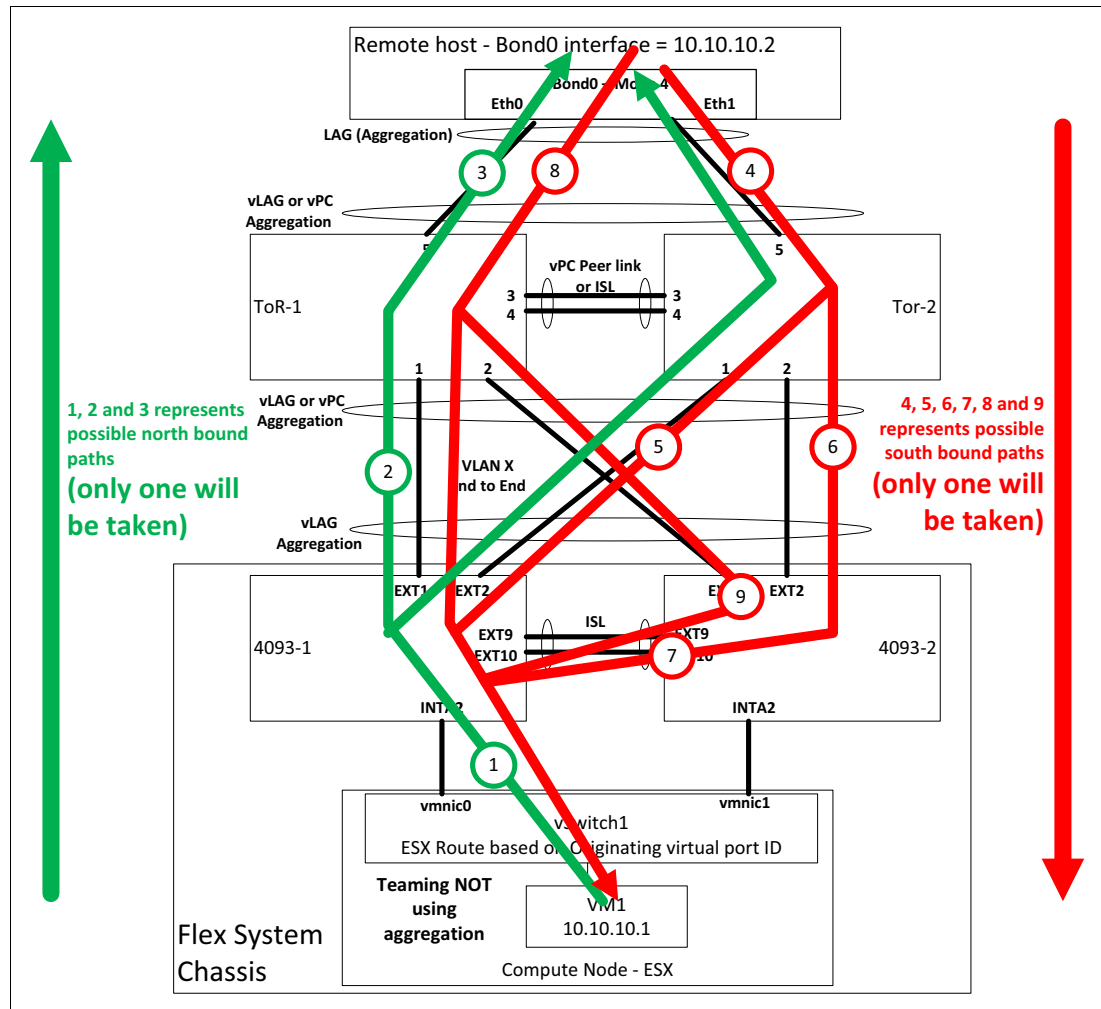
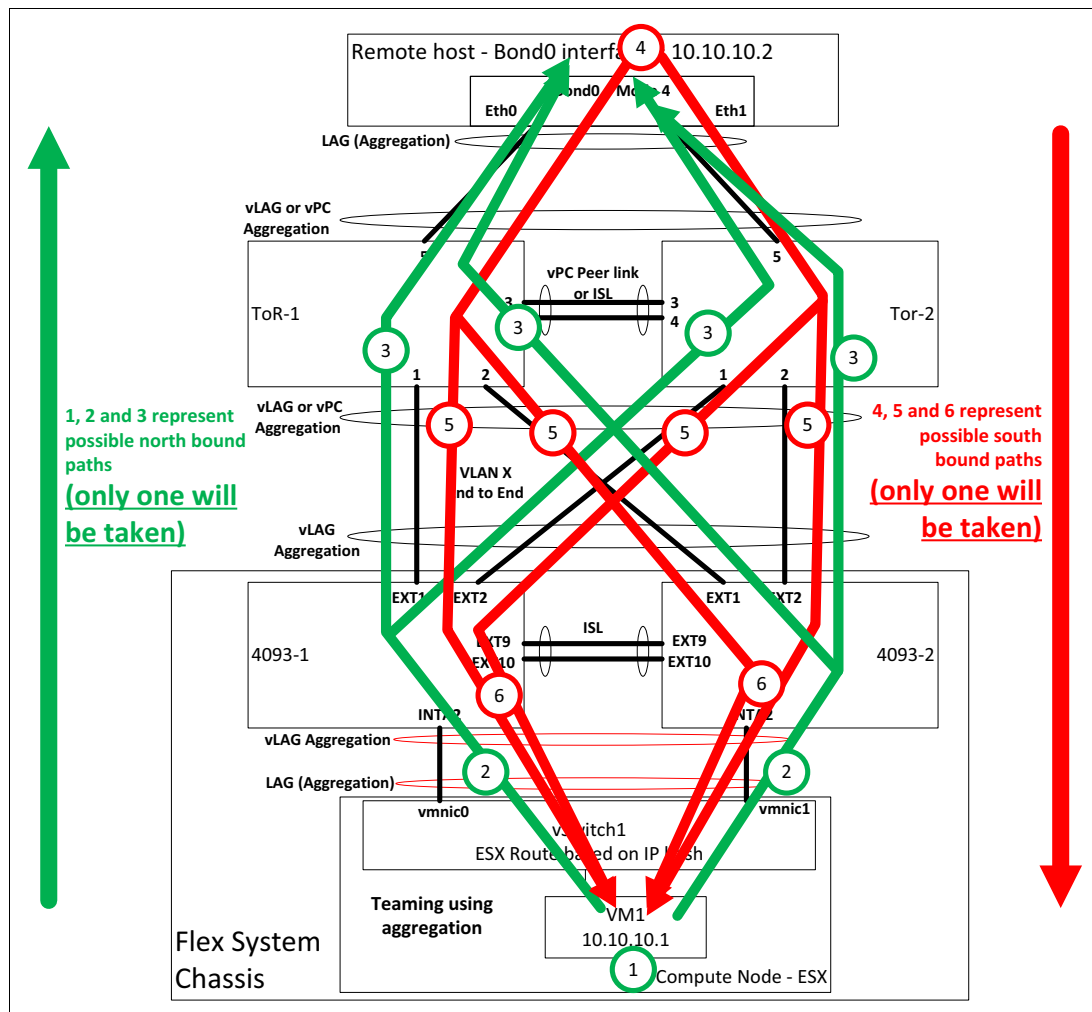

Figure 4-5 Possible packet flows with a host that uses a non-aggregation form of teaming
Figure 4-6 Possible packet flows with host that uses an aggregation form of teaming
The remaining parts of this section describe the examples that are shown in Figure 4-5 on page 52 with switch-independent mode teaming, and Figure 4-6 on page 54 with switch-dependent mode teaming to help show how packets can flow in an environment that features vLAG.
The example that is shown in Figure 4-5 is described in this section, via step-by-step numbered packet flows.
This packet flow includes the following steps, as shown in Figure 4-5:
1. In this example, the vSwitch in the local host is not running an aggregation-based teaming; instead, it uses load balance per virtual machine (VM) (this setting is the default setting in an ESX vSwitch). The vSwitch for VM1 uses only one of the vmnics (that is, the network interface cards) for all conversations for VM1 into and out of the ESX host. For this example, assume that it hashed to using `vmnic0` to the left side for VM1 (it might as well decide to use `vmnic1`, but whatever vmnic the vSwitch does hash VM1 to, it sends packets from VM1 only out that direction, and accepts packets that are destined for VM1 only back on that same vmnic if vmnic stays up).
Figure 4-5 on page 52 shows how the possible outbound packets might flow north (items 1 - 3), with this switch-independent mode teaming design, and the possible return paths the packets might take are shown in items 4 - 9. (It is assumed that all links are up.) All possible paths also are shown, but it is assumed that only one of these paths is taken.
- ▶ There are designs within which normal traffic can use the ISL (not only low-level vLAG traffic and failover traffic). Figure 4-5 on page 52 shows this ISL path usage on the return traffic.
The ToR switches that are shown in Figure 4-5 on page 52 do not know that there are potentially two separate switches below them. Instead, 4093-1 and 4093-2 appear to be a single switch and *any* port is as good as another to get traffic from the ToR switches to the 4093 switches, so the network administrators *must* ensure that the proper VLAN paths exist when vLAG and vPC are used.
The next example shows the hop-by-hop packet flow between a host that is running switch-dependent mode teaming in the Flex System chassis and the aggregated host at the top of the design. The numbered steps correspond to the numbers that are shown in Figure 4-6.
This packet flow includes the following steps, as shown in Figure 4-6:
7. Figure 4-6 on page 54 shows how the possible outbound packets might flow north (items 1 - 3) with this switch-dependent and aggregation mode of host teaming. The possible return paths the packets might take shown in items 4 - 6. This scenario assumes that all links are up. It also shows all possible paths, but assumes that only one of these paths is taken.
The example as shown in Figure 4-6 on page 54 also shows the following important items when switch dependent modes of teaming are used:
- ▶ This design is potentially more efficient for return traffic than the design in Figure 4-5 on page 52 because it can reduce hops for returning packets and reduce the potential load on the ISL.